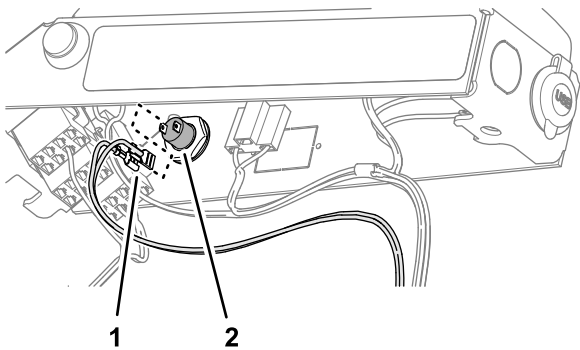

**Figure 99**
3. Route the wire harness branch labeled REMOTE ENGAGE SWITCH) toward the arm panel (Figure 99).